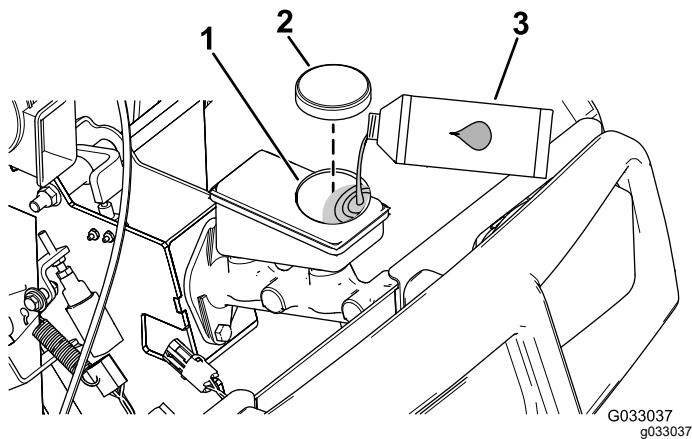

Figure 48
1. Raise the hood to access to the master brake cylinder and reservoir (Figure 48).
- A. Clean the area around the reservoir cap and remove the cap (Figure 48).
- C. Install the reservoir cap (Figure 48).